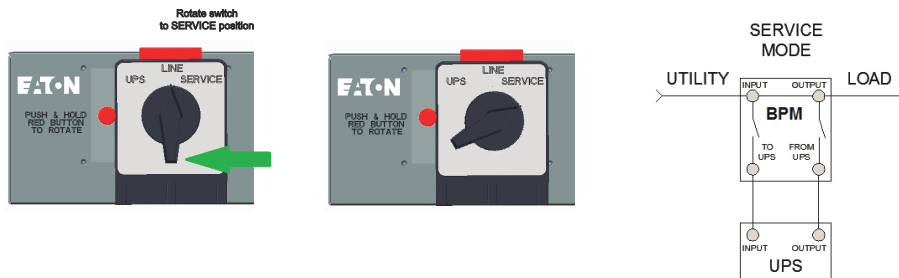

Figure 20. From LINE to SERVICE
2. Turn the switch from LINE to SERVICE (see Figure 20). The critical load is fed directly from utility and the UPS is now completely disconnected from AC power. Ensure that the UPS is off and the terminals are completely de-energized before performing any maintenance on the UPS.